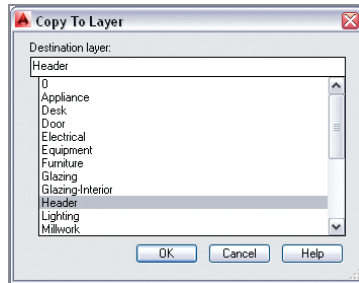

FIGURE 6.15 Selecting a layer in the Copy To Layer dialog box
4. Type **N** (for Name), and press Enter. The Copy To Layer dialog box appears (see Figure 6.15). Select Header from the Destination Layer list, click OK, and press Enter. There are now nine lines on the Sill layer and nine duplicate lines on the Header layer.